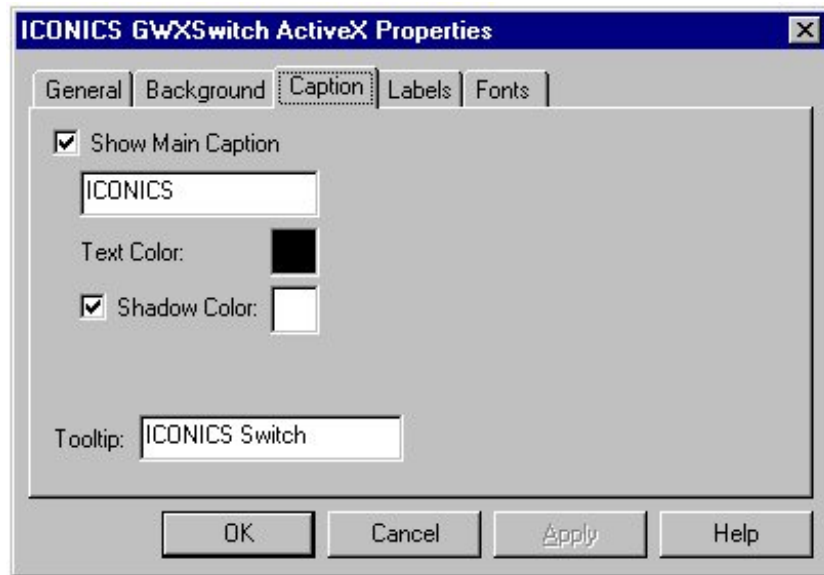

Figure 16-6: GWXSwitch ActiveX Properties Dialog Box: Caption Tab
2. Select the Caption tab (Figure 16-6).